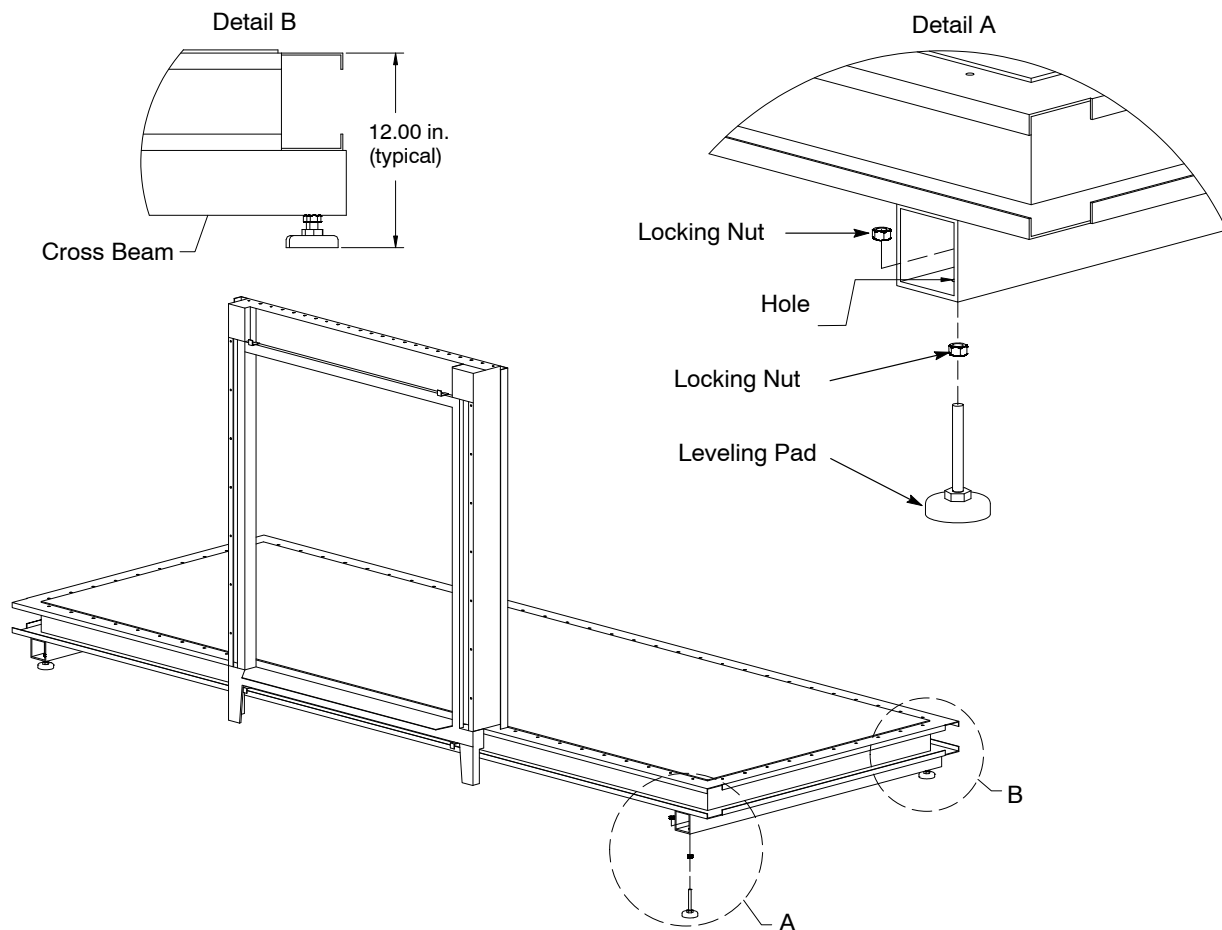

Figure 1 Leveling Pad Installation
2. See Figure 1, Detail A. Thread one locking nut onto each leveling pad.